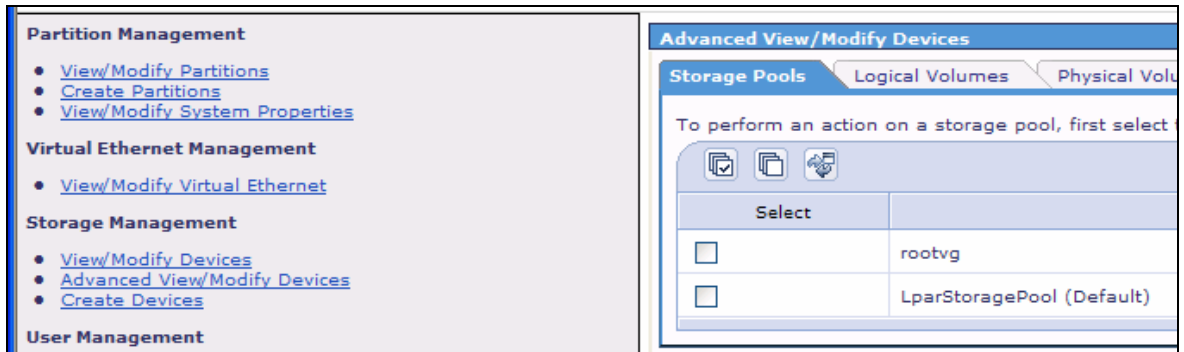

Figure 44. Confirming the new default storage pool
6. Confirm that the new default storage pool is created correctly (see Figure 44).